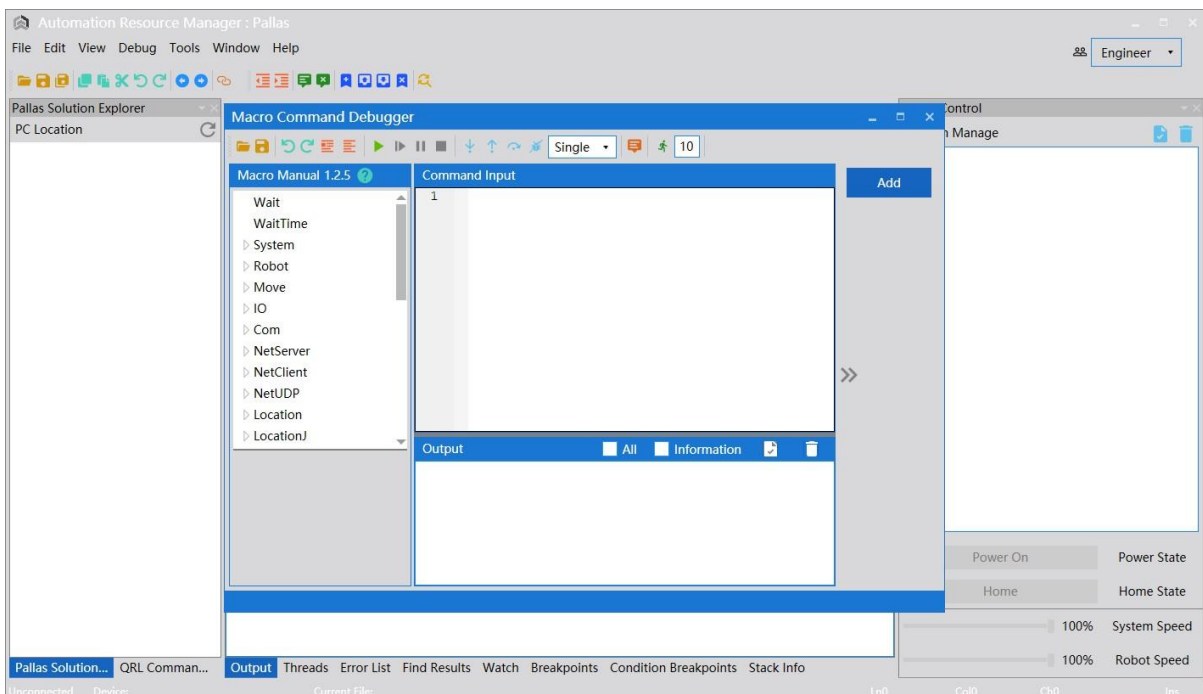

Figure 6-7 Macro Command Debugger
Step 3 The macro command debugger is shown in Figure 6-7.